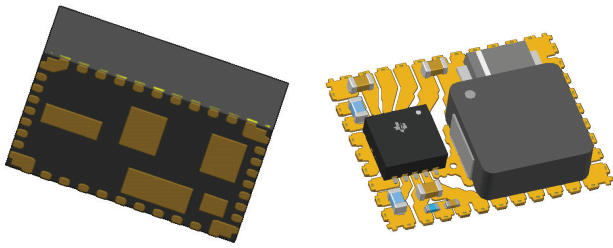

Figure 1. A typical power module with packaged silicon and an inductor side by side on a standard copper leadframe.
As **Figure 1** illustrates, a typical DC/DC power module can integrate a power-converter integrated circuit (IC), power inductor(s), some bypass capacitors and feature-programming resistors, all in the same package.